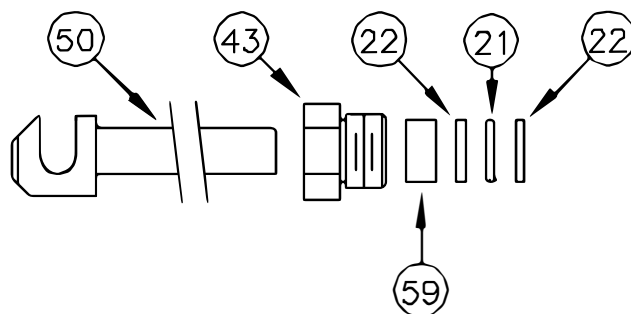

FIGURE 15
REMOVAL OF PUMP PISTON SEALS (SEE FIGURES 15 & 16):
1. Inspect pump piston cavity and piston for damage (see Figures 15 & 16). There should be no scratches, holes or any surface imperfections.
4. Lubricate piston 50 and place seal nut 43 on the piston followed by steel backup ring 59 (see Figure 15 for correct order of installation).